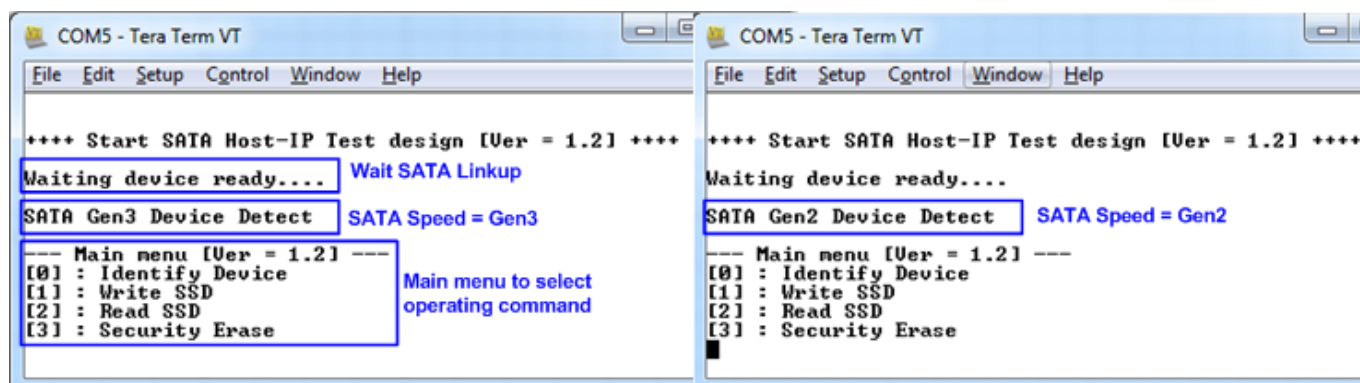

Figure 2-14 Main menu after program configuration file and SATA initialization complete
10) After programming completely, LED[0] and LED[1] are ON during SATA initialization process. Then, LED[1] changes to OFF after SATA completes initialization process and system is ready to receive command from user. After that, main menu is displayed, as shown in Figure 2-14.